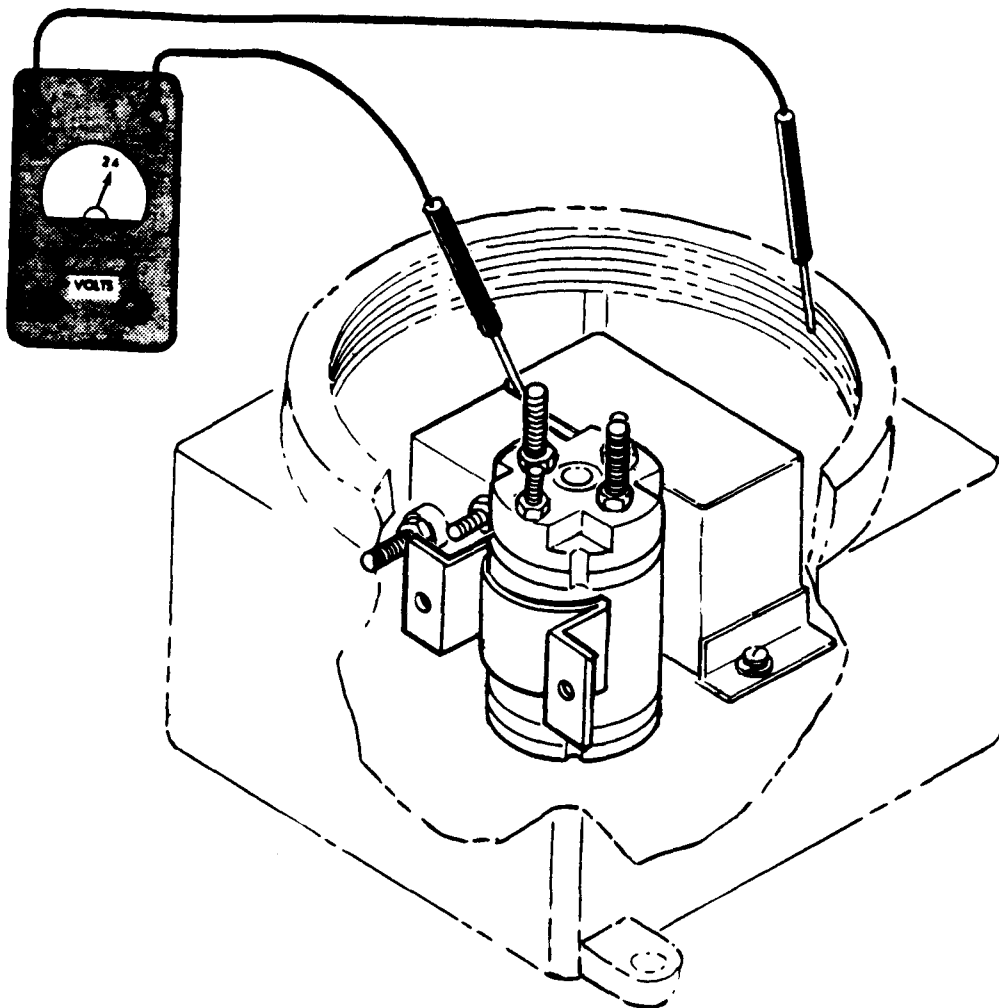

Figure 3-21.8 K-1 Relay Test.
(2) Step 2. (See figure 3-21.8)